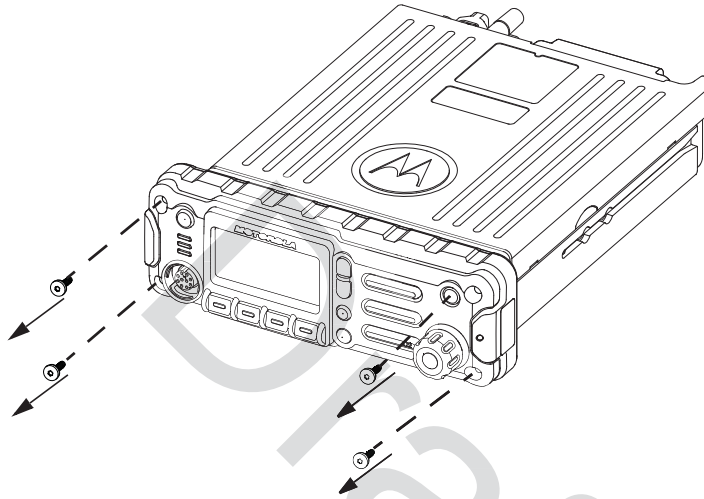

Figure 2-40. Removing the screws on the Control Head
2. Remove the four screws found on the control head with a Torx T-20 bit as shown in Figure 2-40. Discard the screws.